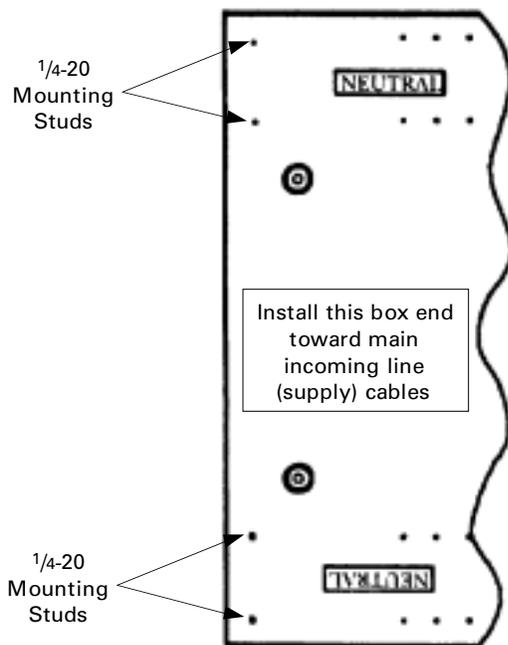

Figure 1. Mounting locations on the panelboard enclosure.
1. Mount the neutral at either location in the end of the panelboard enclosure marked NEUTRAL on the 1/4-20 mounting studs, as shown in Figure 1. Secure with the flat washer, lock washer, and nut provided and tighten to 27–32 in-lb.